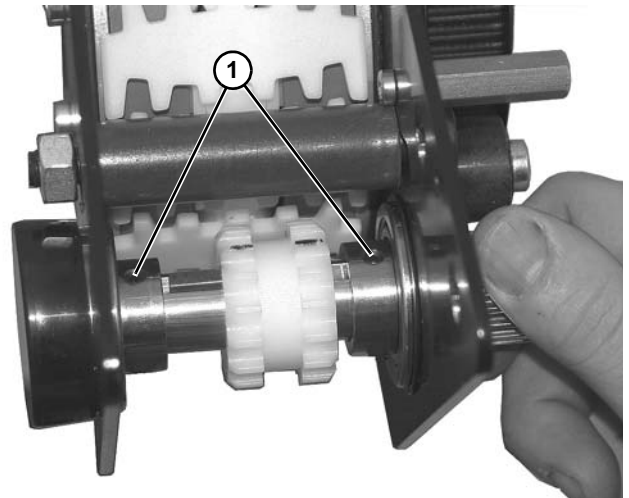

Figure 138
2. Secure drive shaft onto bearings with two set screws (Figure 138, item 1).